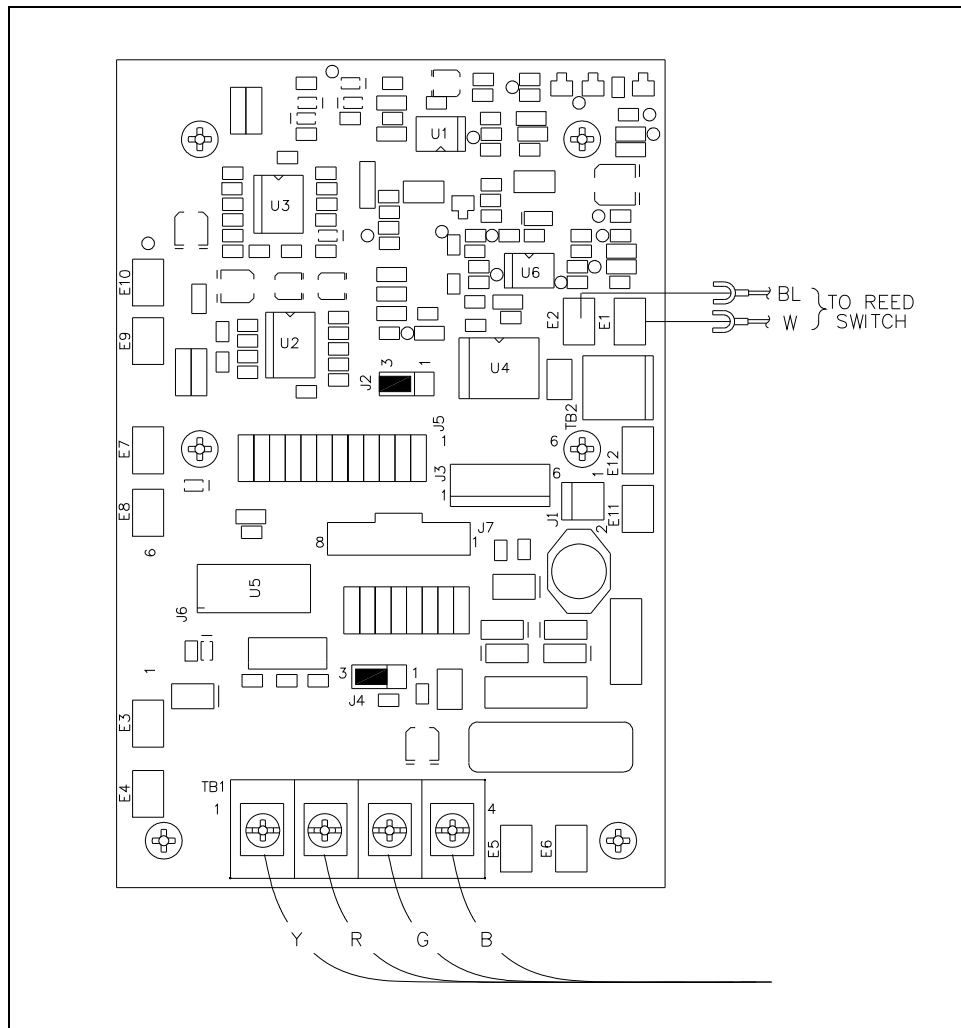

Figure 2. Industrial Telephone PCBA
2. Disconnect the red (Ring) and green (Tip) wires from TB1. See Figure 2.
11. Plug spades on the blue and white wires into E1 and E2 on the PCBA. See Figure 2.
13. Reconnect the red and green wires to TB1. See Figure 2.